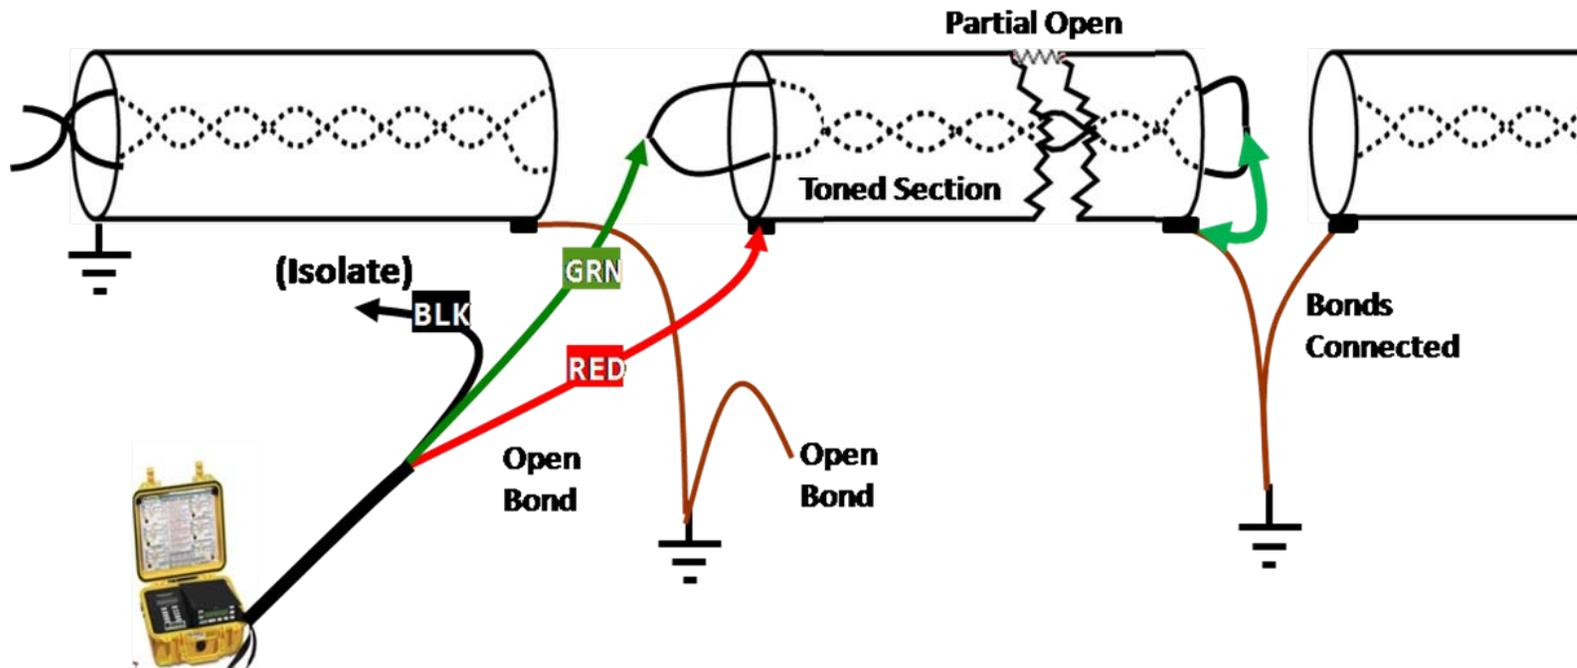

Figure OSB2
- If R-G is between 100Ω and 1000Ω, the screen to right will instruct you to connect per Figure OSB2 (see next page), to keep tone within the section. Use Receiver with A-Frame or Handcoil
- If R-G is <100Ω the screen to right will instruct you to connect per Figure OSB2 (see next page) and use Receiver with Coil (when A-Frame does not receive tone)